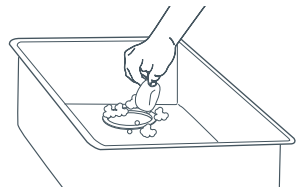

Fig. 8 Lubricate the rubber splash guard
- 9 Lubricate the top lip and angled surface of the rubber splash guard with liquid soap or petroleum jelly (fig. 8).